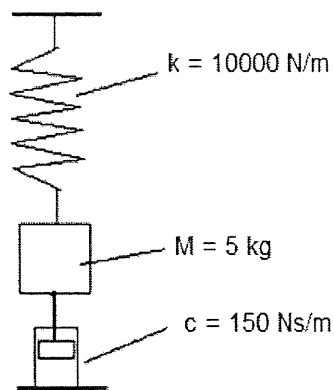

Figure 7
- a) The diagram in Figure 7 shows a mass-spring-dashpot system. The mass has a harmonic disturbing force applied to it given by the equation $F = 400 \sin(30t)$ Newton.